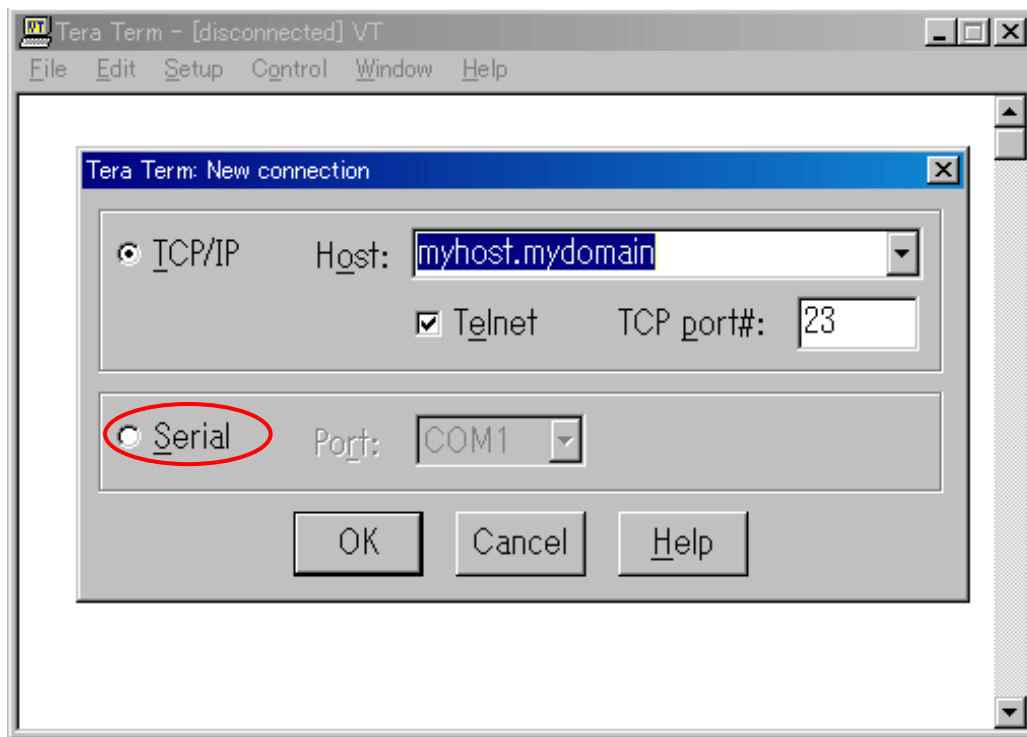

Figure 3 Tera Term Initial Screen
- (3) Connect the evaluation board and the microcomputer board.
- (4) Use the USB cable to connect the ML7416 evaluation board with the personal computer on which Tera Term is installed.
- (5) Start Tera Term. When it has started, the screen in Figure 3 is displayed.